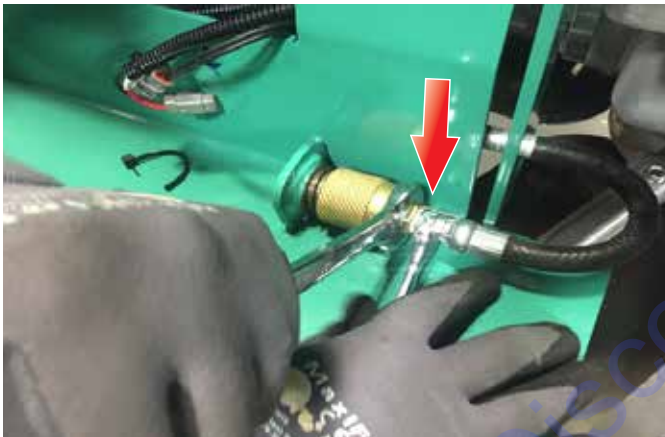

Figure 31. Reinstall LPG Connection Port Fitting
32. Reinstall LPG connection port fitting (Figure 31) and tighten securely.